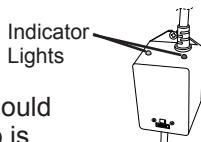

Figure 7
18. Reinstall the black bulb boot (8) back over the quartz seal compression nut (7).
19. Reinstall the enclosure cover (10) with gasket (9) and secure with the screws.
22. Once power is activated you can check the ballast (12), Figure 7, to see if the CLEARARRAY System is functioning. A solid green light indicates that the CLEARARRAY System is being provided power and should always be on. A solid red light indicates that UV bulb is activated.